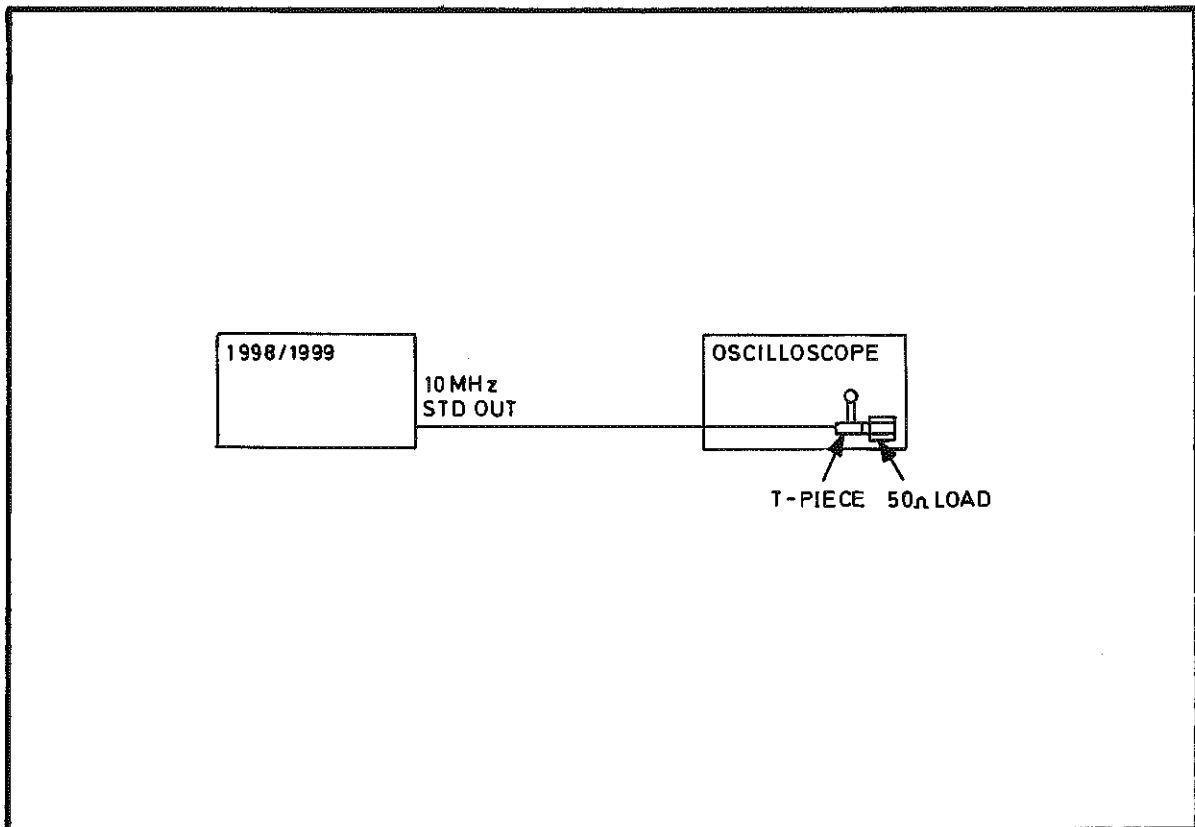

Fig 7.26 Connections for 10 MHz Standard Output Level PVP
- (1) Connect the test equipment as shown in Fig 7.26.
- (2) Verify that the peak-to-peak amplitude of the displayed waveform is $1.0 \text{ V} \pm 0.4 \text{ V}$. Verify that the mark/space ratio is between 30:70 and 70:30.
- (3) Disconnect the test equipment.